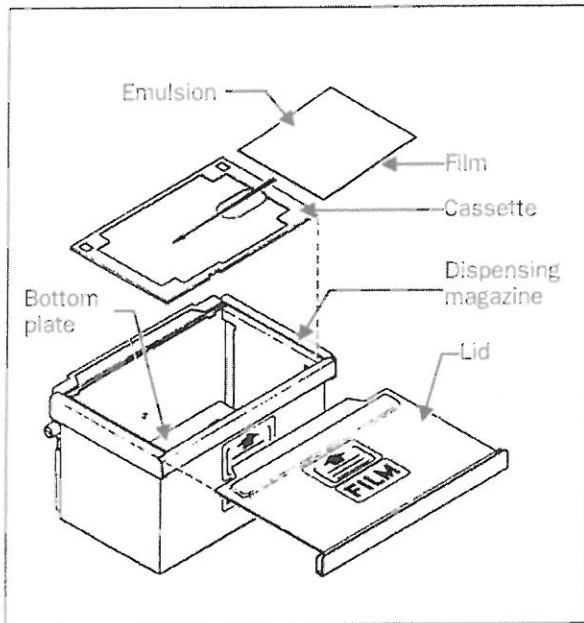

Fig. 5.1 Film loading
1. Insert an unexposed film into each cassette with the emulsion side facing up under a safe light (red light) in the darkroom (Fig. 5.1).